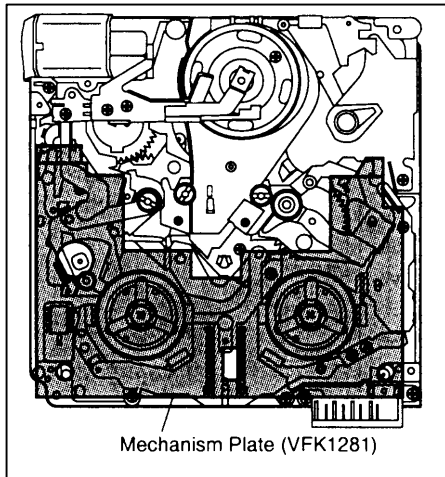

Figure M41
1. Turn the adjustment screw (A) on top of the Supply or Take-up Reel Table fully clockwise. Then, place the Mechanism Plate on the Mechanism Chassis as shown in Fig.M41.